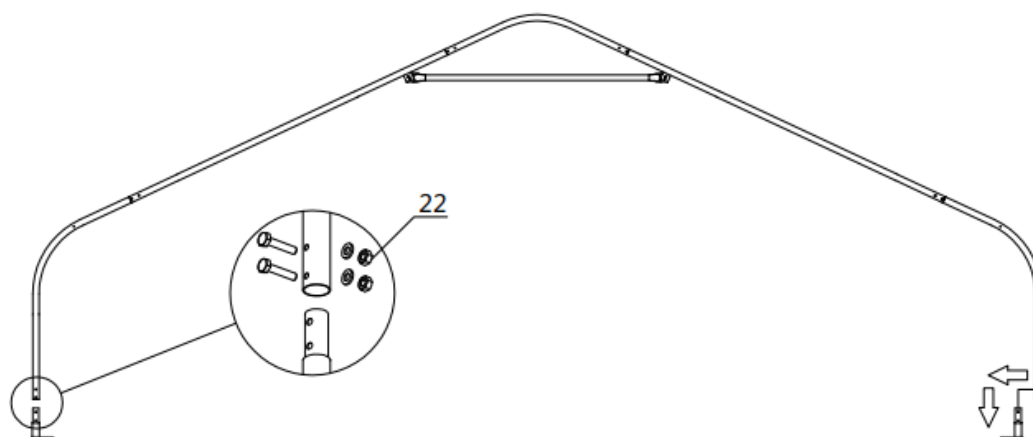

Figure 5
Step 3 : Put up all trusses (refer to figure 5)
- (4) Hex bolt (#22)